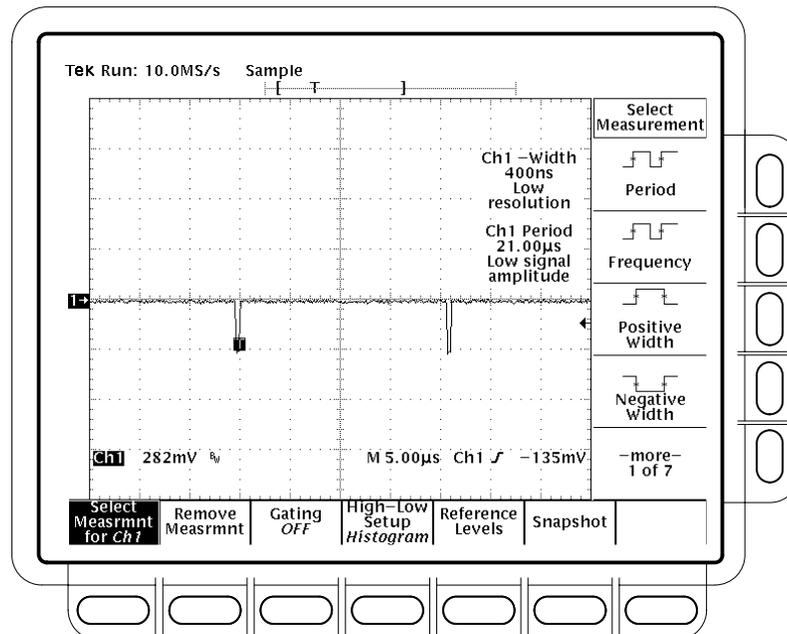

Figure 4-40: Sync Duty Cycle Test: Critically Adjusted Pulse
- Turn the pulse generator **PERIOD** variable control to adjust the period until the oscilloscope **CH1 Period** measurement reads **21.000µs -25/+50 ns**. See Figure 4-40. Read note shown below.